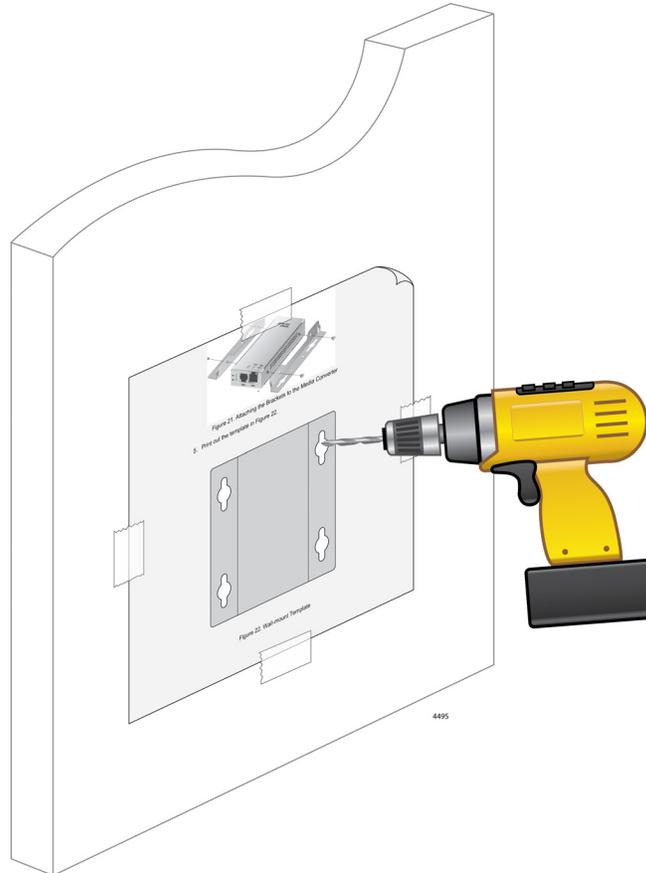

Figure 32. Placing the Template on the Wall
7. Pre-drill four 3/16" (5mm) holes at the locations on the templates as shown in Figure 32.